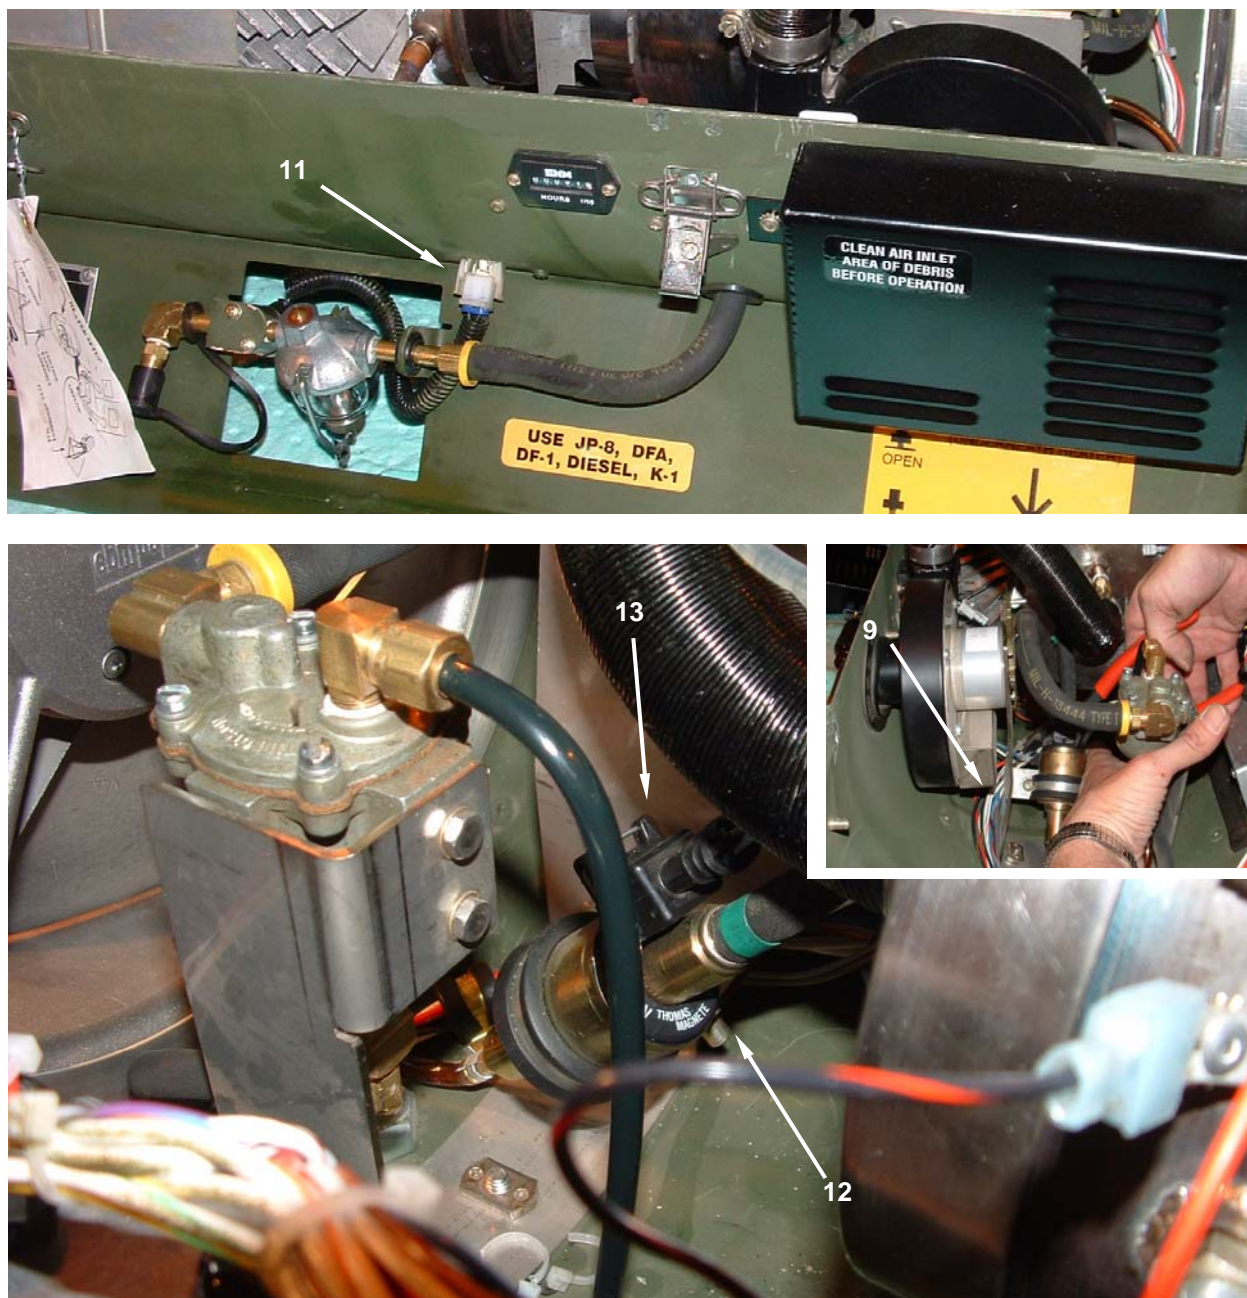

Figure 5. Replace the Electronic Box Assembly, Complete With Wire Harness – Disconnect Fuel Pump.
10. Push the solenoid connector (**Figure 5, Item 11**) through the hole in the heater body.
11. Cut the wire tie retaining the harness (**Figure 5, Item 9**) to the fuel pump (**Figure 5, Item 12**).
12. Disconnect the fuel pump electrical connector (**Figure 5, Item 13**) by pressing the wire clip on the connector.